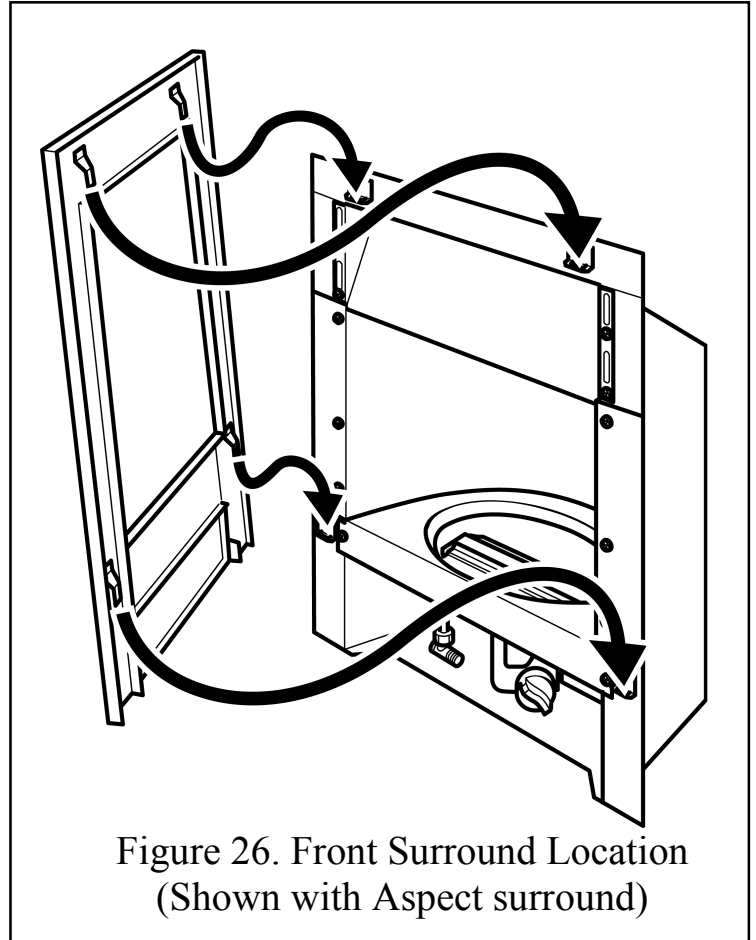

Figure 26. Front Surround Location
2. Carefully lift the front surround. Place the front surround against the fireplace front surface so that the four retaining plates at the back of the surround are directly above the four retaining brackets of the hotbox. There are two at the top of the hotbox and two to the side of the burner module. Lower the surround unit making sure that the retaining plates locate fully into the brackets on the hotbox (See figure 26).